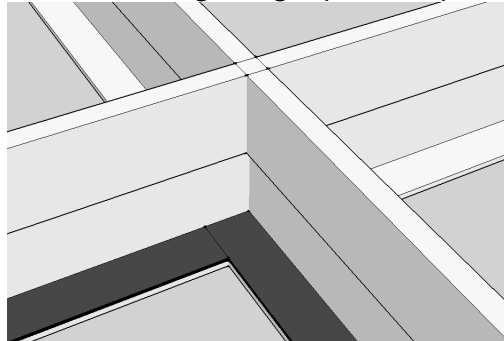
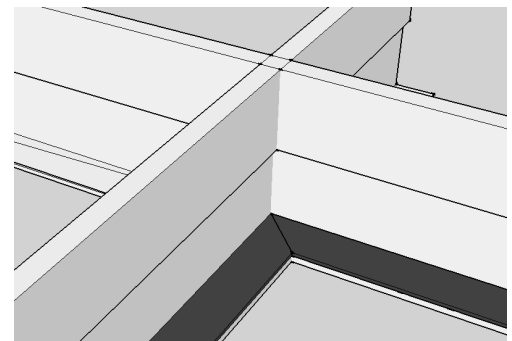

Figure 1: Acceptable tight Butt Joint
Figure 2: Acceptable tight Miter Joint
- It is strongly recommended that the panels remain in their packing material until ready for direct installation in the grid. If they must be removed, panels may be stacked against a wall away from traffic by providing 2" rigid foam AT LEAST the width of the panels for continuous edge support, and rigid foam or cork spacers to prevent panels from touching each other. Stack no more than five (5) panels at a time.
- Install glazing tape with exposed edge flush with edge of grid tee for neat, uniform appearance. Run tape continuously to support all four sides of each panel. Tape can be tight mitered (Fig. 2) or tight butt-jointed (Fig. 1), but must be continuous without gaps. Gaps will cause light leaks resulting in an unacceptable installation.